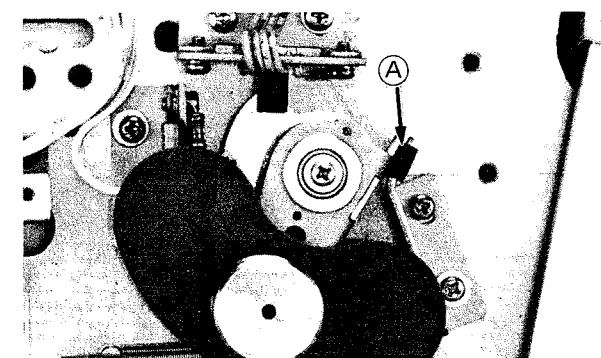

Fig. 7-22. Adjustment Position of the End Sensor Ass'y
1. As described in D (1), leave the sensor assembly raised to disable the end sensor function.
2. Put something of approximately 1.5 mm in thickness between the arm stopper and the right tension arm, that's point A in Fig. 7-22. Then go ahead and set the deck into the edit mode without loading a tape.